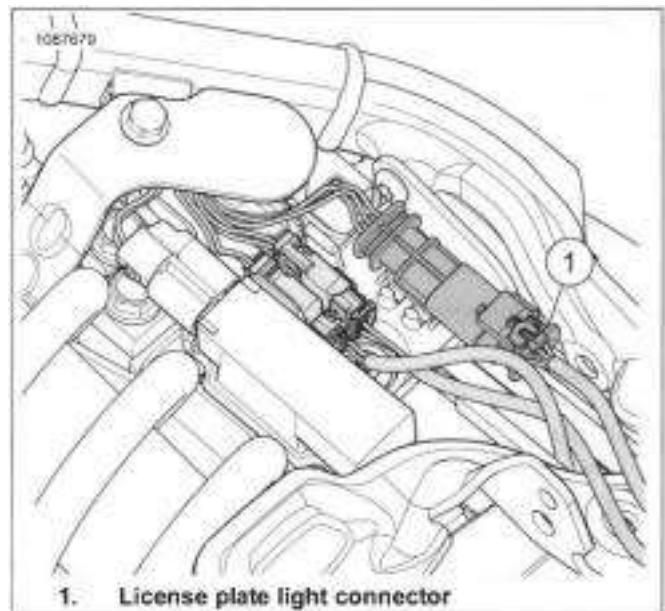
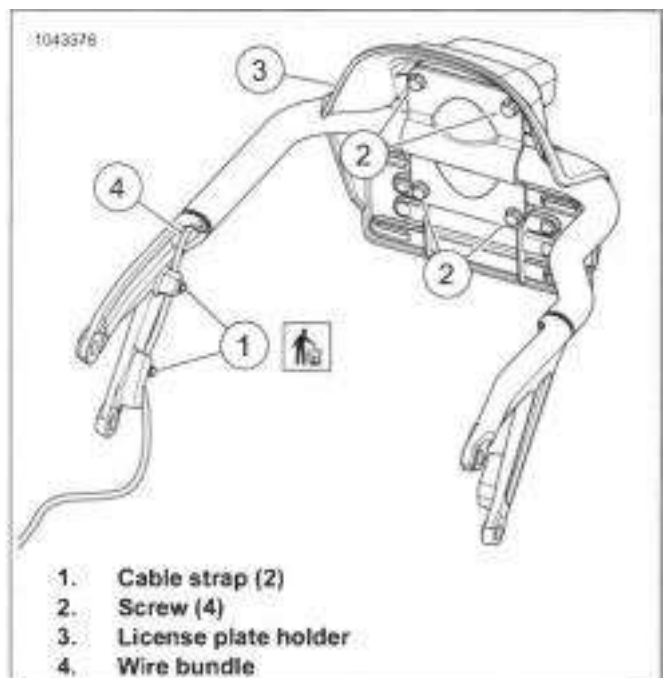
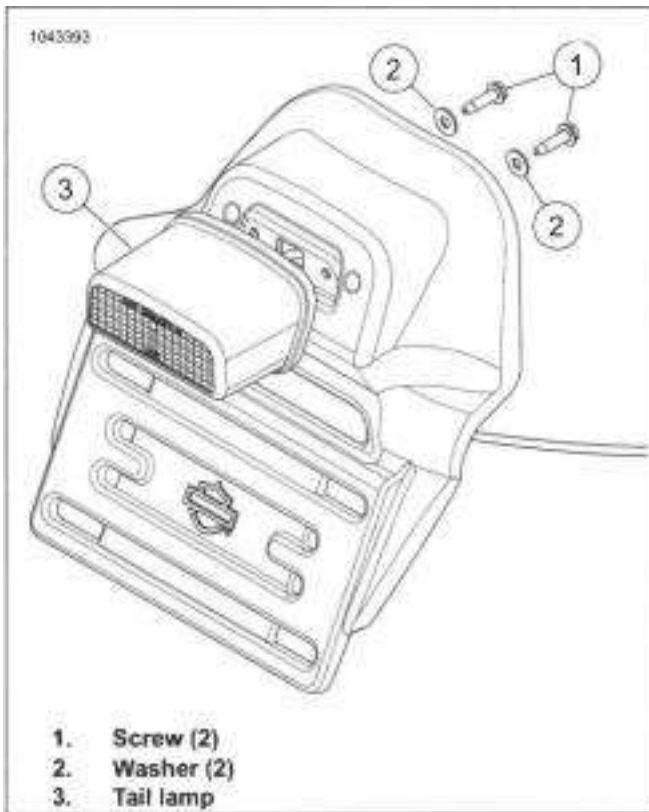

Figure 7-99. License Plate Light Connector
Figure 7-100. License Plate Holder
Figure 7-101. Tail Lamp (Typical)
1. See Figure 7-99. Disconnect license plate connector (1).
2. Disconnect pins from connector (1). See electrical diagnostic manual.
3. See Figure 7-100. Discard cable straps (1).
4. Remove screws (2).
5. Remove license plate holder (3).
6. Remove wire bundle (4) from frame.
7. See Figure 7-101. Remove screws (1) and washers (2).
8. Remove tail lamp (3).
1. See Figure 7-101. Install tail lamp (3).
2. Install screws (1) and washers (2). Tighten.
3. See Figure 7-100. Route wire bundle (4) through frame.
4. Install license plate holder (3).
5. Install screws (2). Tighten.
6. Route harness and install new cable straps (1).
7. Connect pins to connector (1). See electrical diagnostic manual.
8. See Figure 7-99. Connect license plate connector (1).